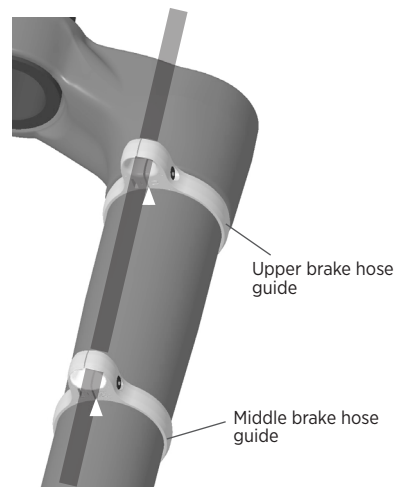

Figure 15: Positioning of brake hose guides
3. Remove the two screws from the middle and upper brake hose guides. The middle brake hose guide is marked with an "M" and has a slightly smaller diameter than the upper brake hose guide (marked with a "U"). Install the brake hose through the opening in each of the guides. Loosely reinstall the screws (Figure 15).
4. Position the middle and upper hose guides so that the bottom slit is aligned to the top peak of each arrow graphics that are laser etched on the fork (represented by the white arrowheads in Figure 15). Use a 2.5 mm hex bit and a torque wrench to tighten the screw to 0.9 N.m (8 in-lb).